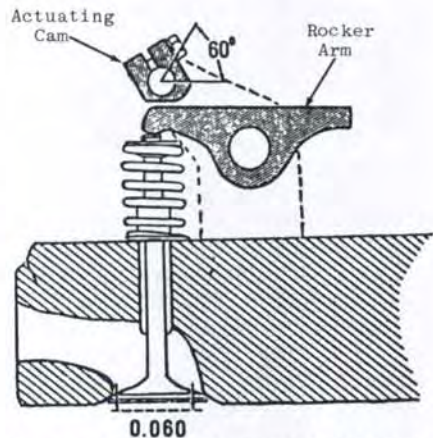
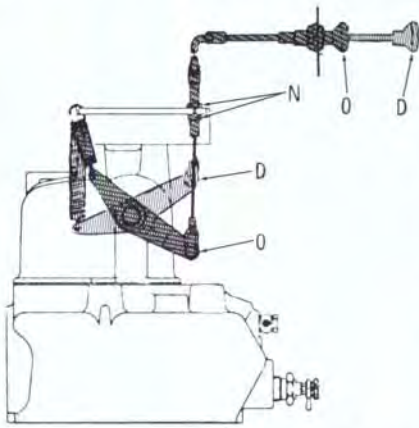

Fig. 14—On Model L260, actuating decompression knob should move exhaust valve 1.5 mm (0.060 inch). Refer to paragraph 14.
Fig. 15—Cross-sectional view of Model L260 compression release linkage. Refer also to paragraph 14.
exhaust valves are held open approximately 1.5mm (0.060 inch) as shown in Fig. 14. Operating lever must move fully to decompression position (D—Fig. 15) and operating position (O). Adjust by repositioning cable housing anchor nuts (N).